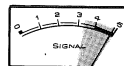

Fig. 9
2. Select station by turning TUNING knob. Station is properly tuned-in when the needle of the SIGNAL meter is deflected a maximum to the right (Fig. 9).